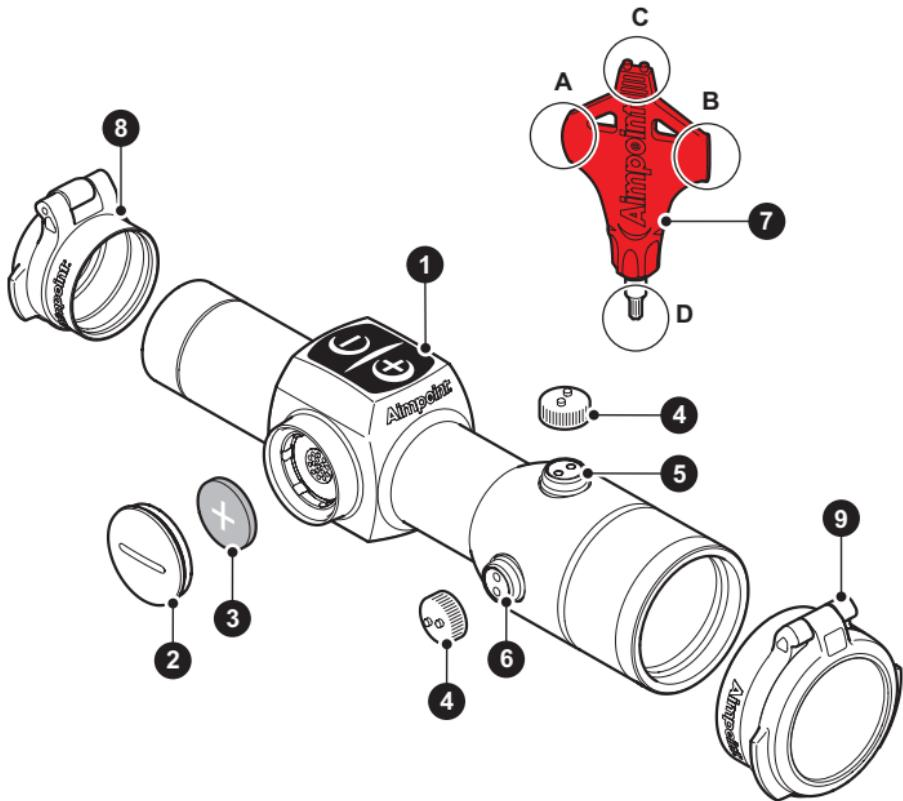

Fig. 2 ➔ 1.2
See Fig. 2
- Start the sight by pushing or on the intensity adjustment touch pad (1) located on top of the sight.
- a Remove battery cap (2) by turning it counter clockwise using the plastic adjustment tool (7A) included with your sight.
- b Insert battery (3) with positive end (+) toward battery cap (2) as can be seen in Fig 2.
- c Install battery cap (2) by carefully aligning the threads on the battery cap (2) with the threads in the sight body, then turn the battery cap (2) clockwise until snug. Hand tighten only using the adjustment tool (7A).
- d Verify that red dot is present by pressing or intensity buttons (1) on the sight.